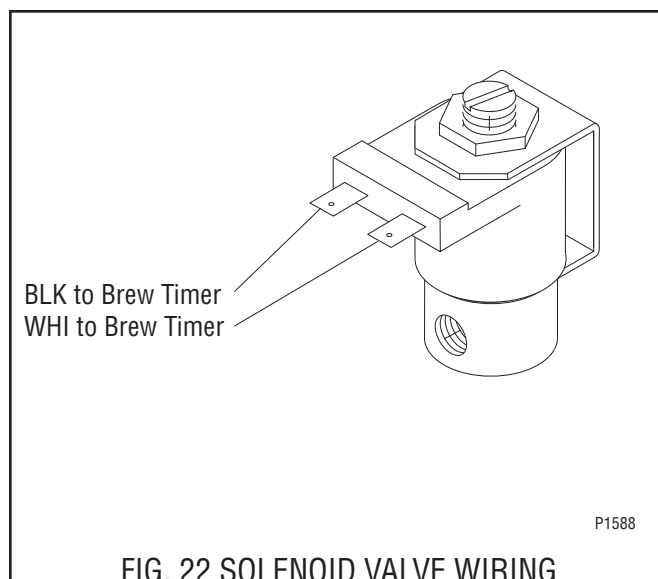

FIG. 22 SOLENOID VALVE WIRING
10. Refer to FIG. 22 when reconnecting the wires.